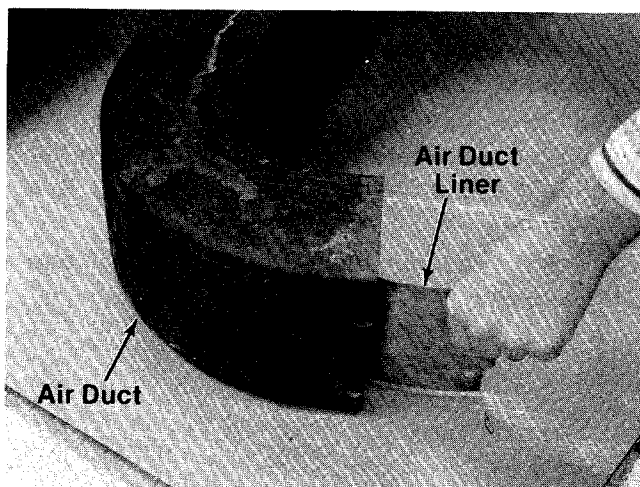

FIGURE 2.
3. Insert studs of air duct liner through holes in air duct. Thread on two (2) flat washers and hex nuts (provided) several turns—do not tighten. See figure 2.